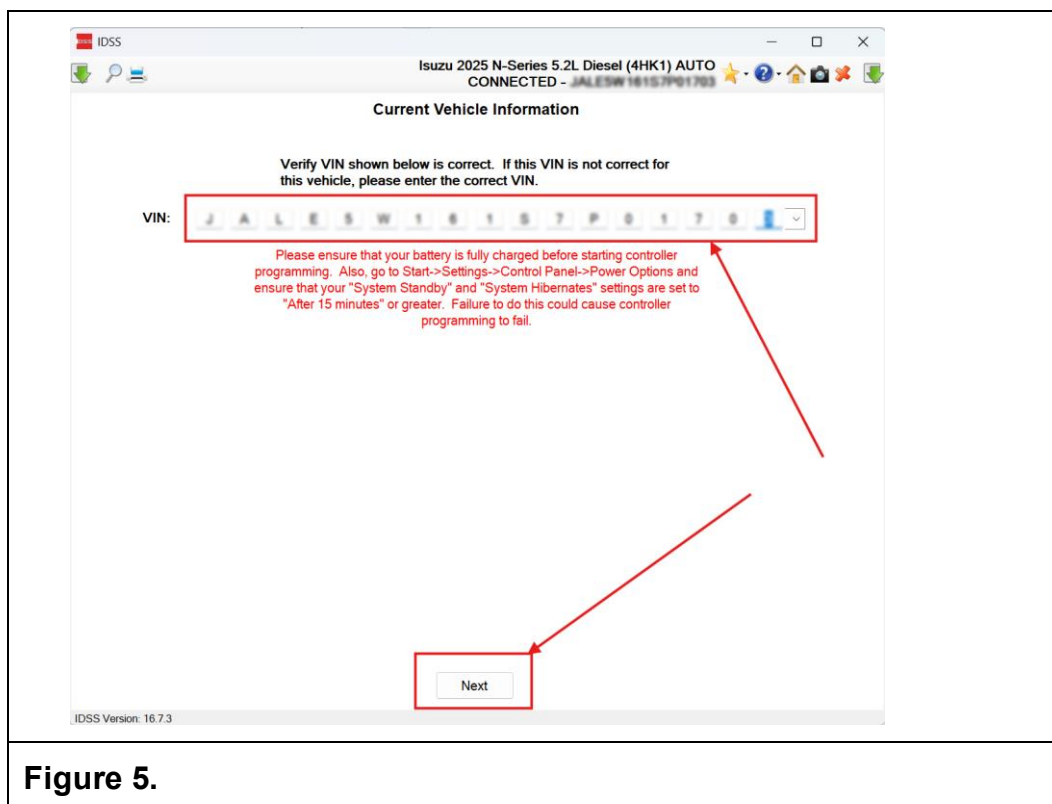

Figure 5.
8. The next screen asks to verify the VIN. (See Figure 5.) Follow the instructions on the screen. Select **“Next”** when all information is correct and all the instructions have been completed.